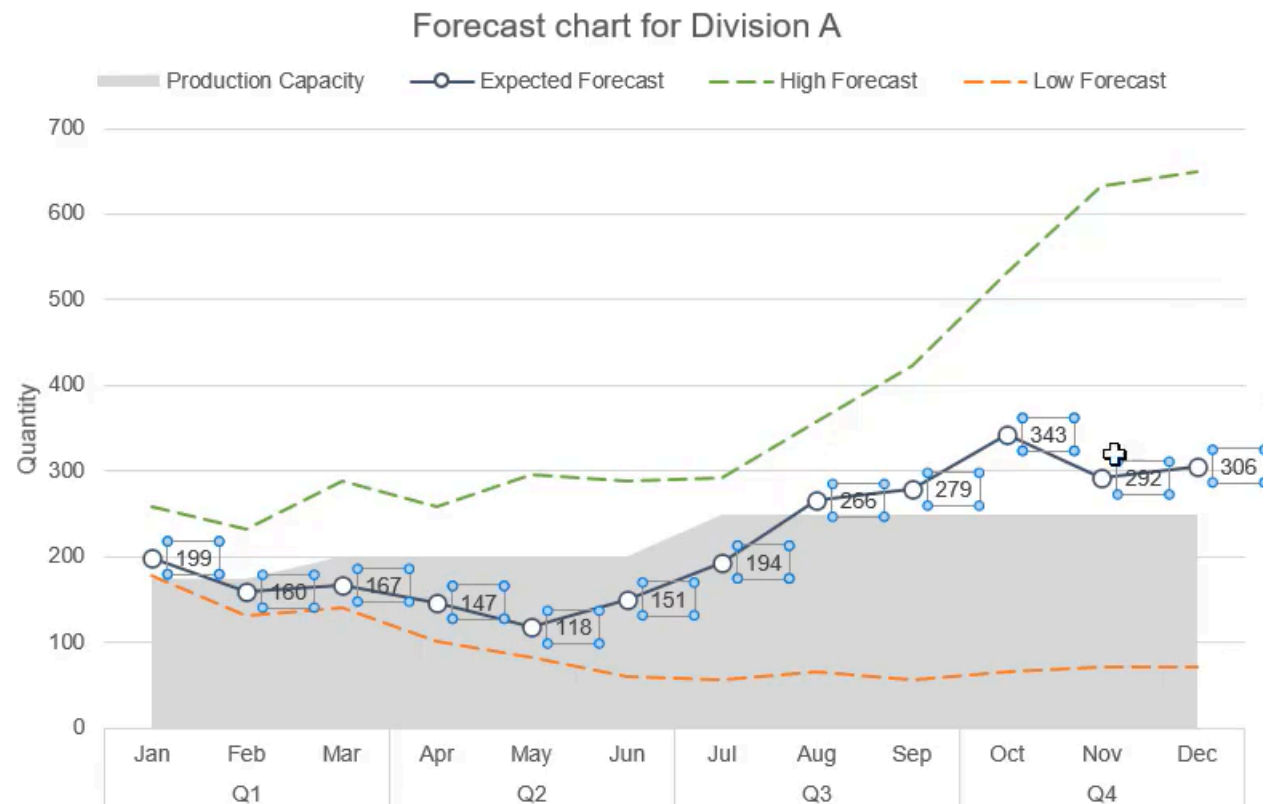

Figure 37.24
3. Right-click and select **Add Data Labels**. Your chart should reflect **Figure 37.24**.